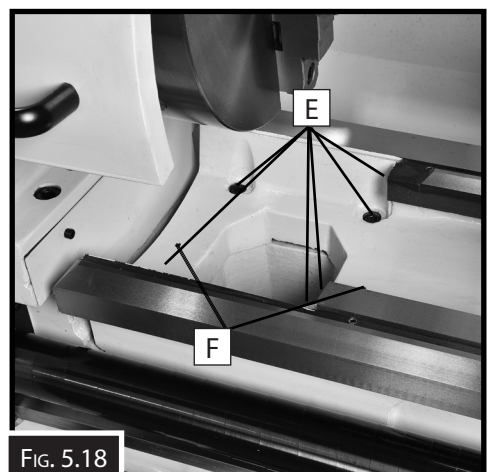

FIG. 5.18
1. Remove the four cap screws from the bottom of the gap and two from the ends of the ways ("E" in Fig. 5.18).
2. Remove the set screw plug, and assemble an M6 x 30 cap screw, 6mm flat washer, and the gap pin puller hub ("F" in Fig. 5.18)